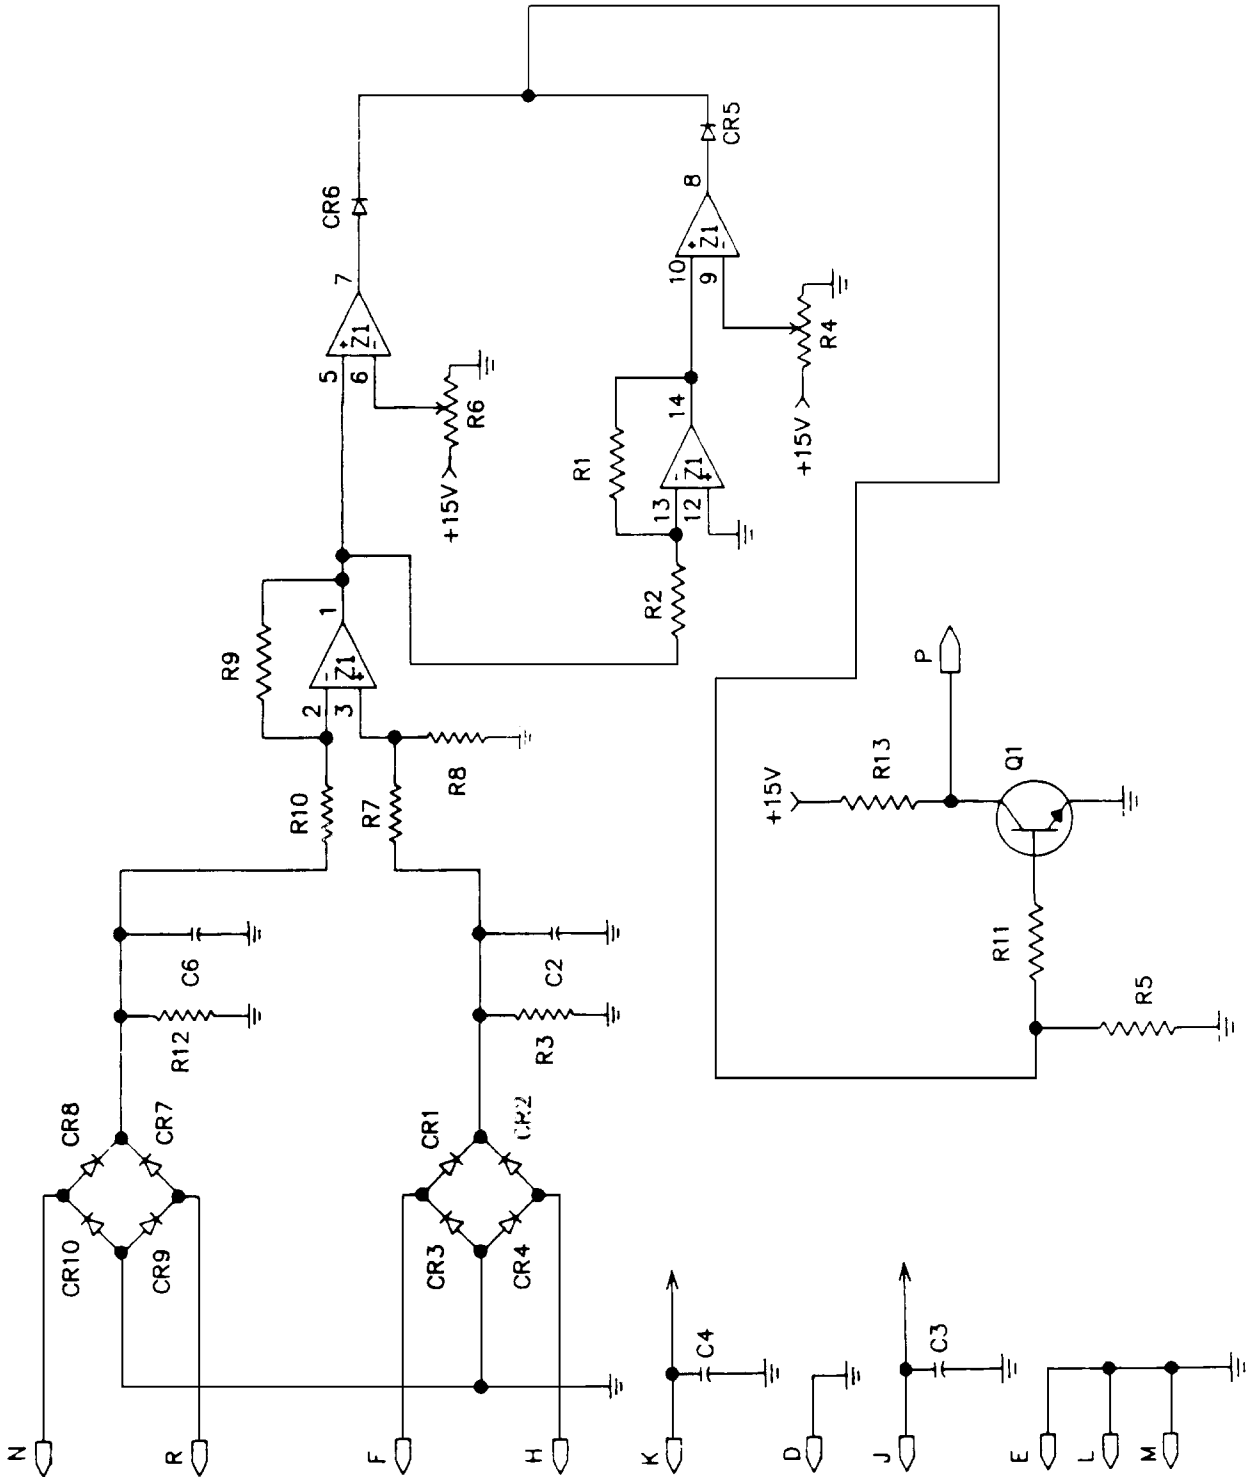

Figure 5-5. Voltage PCB Schematic Layout
- a. Visually inspect PCB for poor solder joints, solder splashes, incorrect components, and incorrect diode and capacitor directions. See figure 5-5 for schematic.